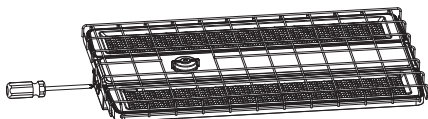

Figure 8
- Step1. Place the wire guard on the lamp and fix it with screws (Figure 8).